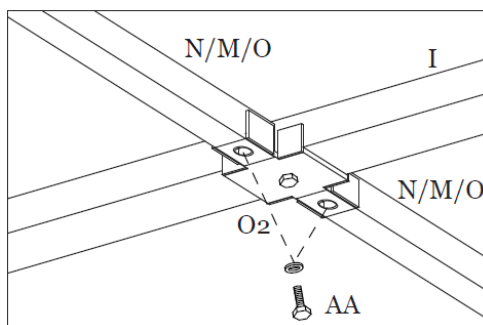

Figure 12-4
Step 12D: Attach the Main Roof Horizontal Supports (M,N,O) to the Main Roof Connectors (O2) using Bolts (AA). See Figure 12-4.